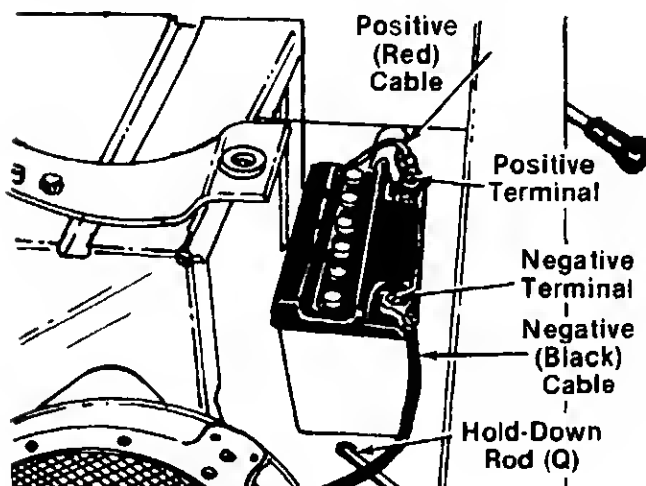

FIGURE 11.
1. Hook the battery hold-down rods into the holes in the frame. See figures 11 and 12.
2. Place the battery in the rider with the positive terminal to the front. The negative terminal goes to the rear of the unit. See figure 11.
4. Place the negative (heavy black) cable on the negative terminal. Secure with bolt, nut and lock washer provided with battery. See figure 11.